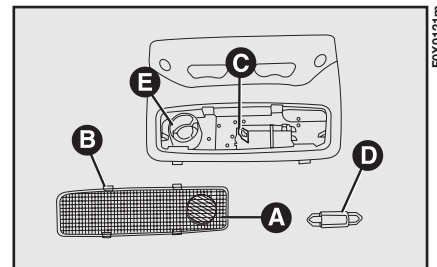

fig. 141
- remove lens A-fig. 141, operating the retaining devices B;